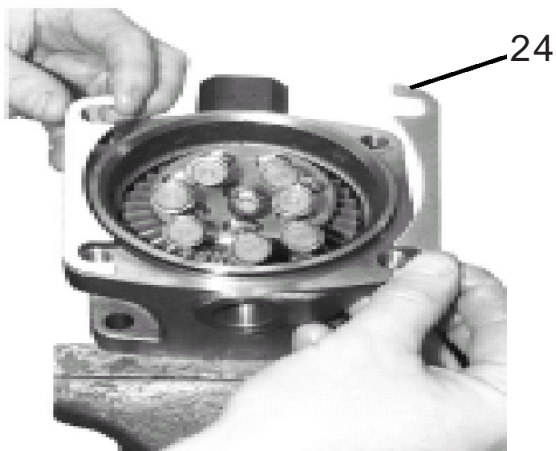

Figure 31
14. Install Shims. Install the bearing housing shims (item 24) onto bearing housing (See Figure 31), These shims are various thickness and the quantity required will vary, start with the same amount and thickness that was removed.